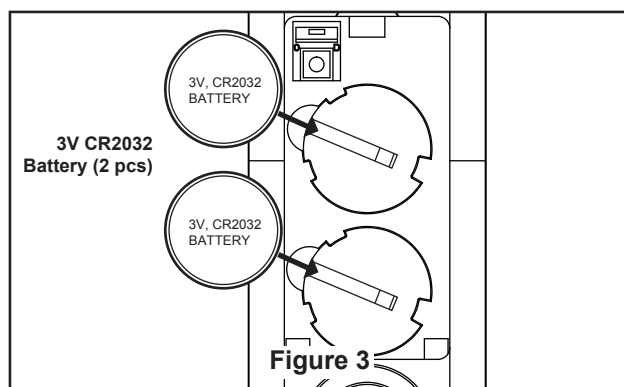

Figure 3
- 3. To make fan operational, install two 3V batteries (included) in hand-held remote transmitter, with fan power off. Then, follow the remote code setting process. If not used for long periods of time, remove battery to prevent damage to transmitter. Store the remote away from excessive heat or humidity. (Figure 3)